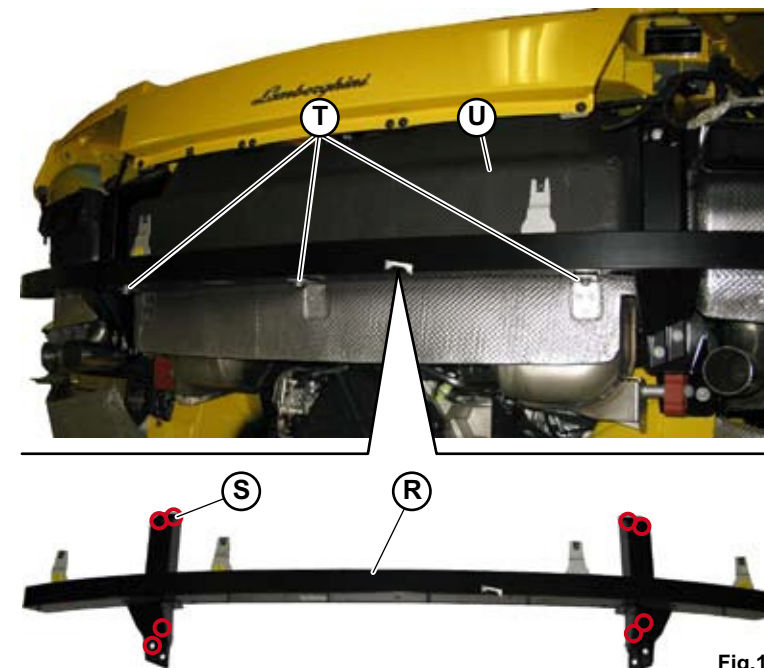

Fig.11
13. Position the cross member (**R-Fig.11**) in its seat.
14. Tighten the 8 screws (**S-Fig.11**) and secure the cross member to the chassis.
15. Tighten the 3 screws (**T-Fig.11**) and secure the heat-proof panel (**U-Fig.11**) to the cross member.